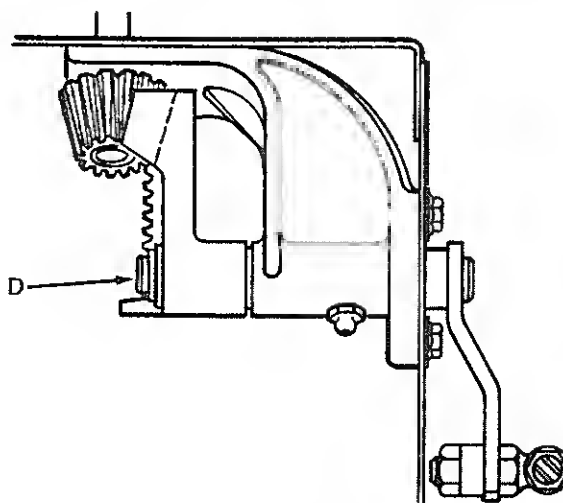

FIGURE 5-2
1. Remove retaining ring (D) Figure 5-2 and slide the steering arm shaft out.
4. If for some reason the two gears do not have maximum engagement, shim at point (I) and secure with retaining ring (D), Figure 5-2.